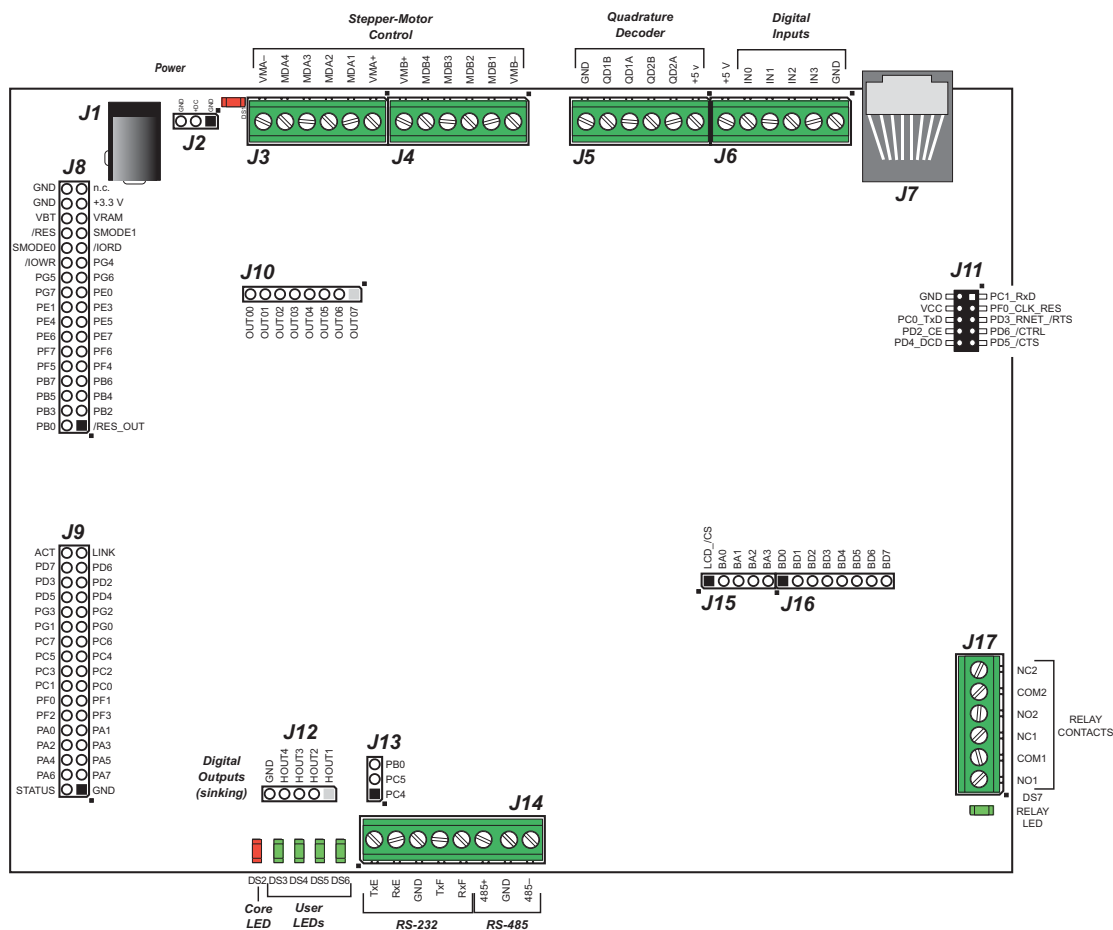

Figure B-4. Prototyping Board Pinout
- **Module Extension Headers**—The complete pin set of the RCM3309/RCM3319 module is duplicated at headers J8 and J9. Developers can solder wires directly into the appropriate holes, or, for more flexible development, 2×17 header strips with a 0.1" pitch can be soldered into place. See Figure B-4 for the header pinouts.
- **Digital I/O**—Four digital inputs are available on screw-terminal header J6. See Figure B-4 for the header pinouts.
- **Quadrature Decoder**—Four quadrature decoder inputs (PF0–PF3) from the Rabbit 3000 chip are available on screw-terminal header J5. See Figure B-4 for the header pinouts.
- **H-Bridge Motor Driver**—Two pairs of H-bridge motor drivers are supported using screw-terminal headers J3 and J4 on the Prototyping Board for stepper-motor control. See Figure B-4 for the header pinouts.
The Prototyping Board pinouts are shown in Figure B-4.